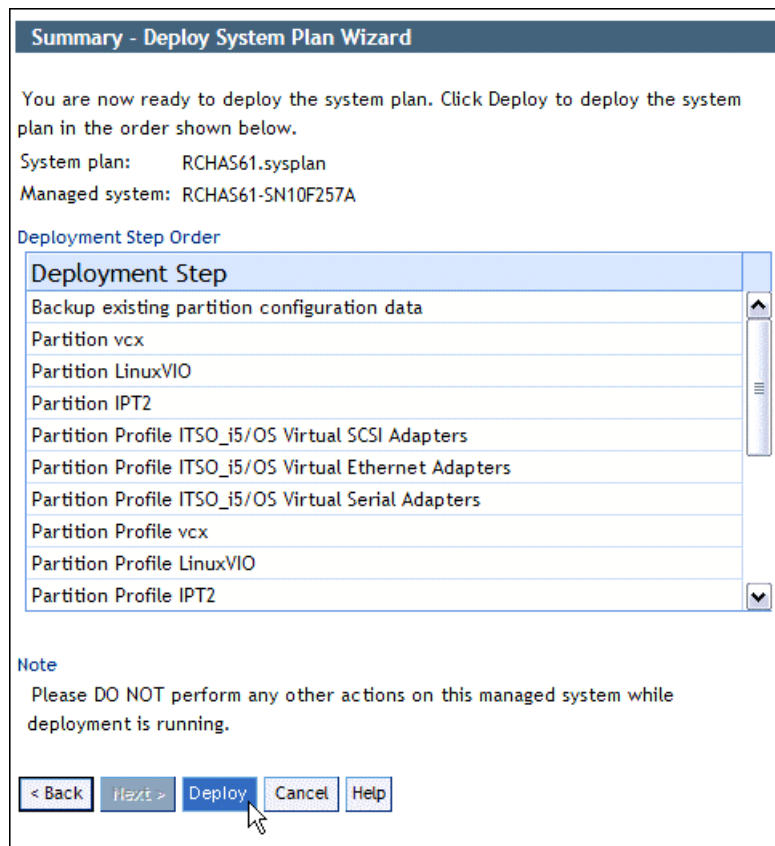

Figure 2-20 Partition deployment: Deploy System Plan Wizard
- d. When you are ready to deploy, after you review details of the actions, eventually deleting some of the actions and reviewing the deployment steps, as shown in the Figure 2-20, click **Deploy** to start the deployment.